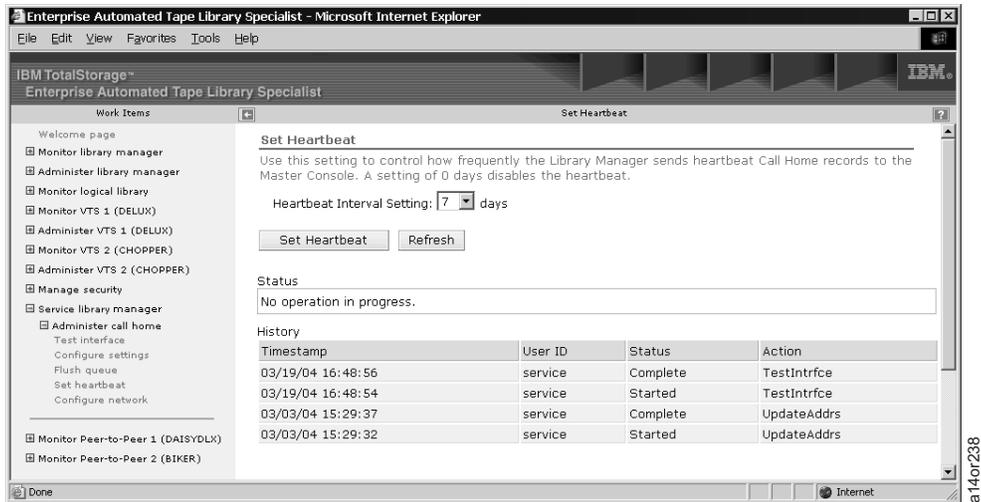

Figure 52. 3494 ATL Web Specialist - Set Heartbeat
1. From the “Administer call home” list on the Web Specialist screen (Figure 48 on page 38), click **Set Heartbeat** to see Figure 52 on page 41. If you are prompted for a userid and password, use the default values of **service** for the userid and **service** for the password. These values can be changed by the 3494 ATL system administrator.